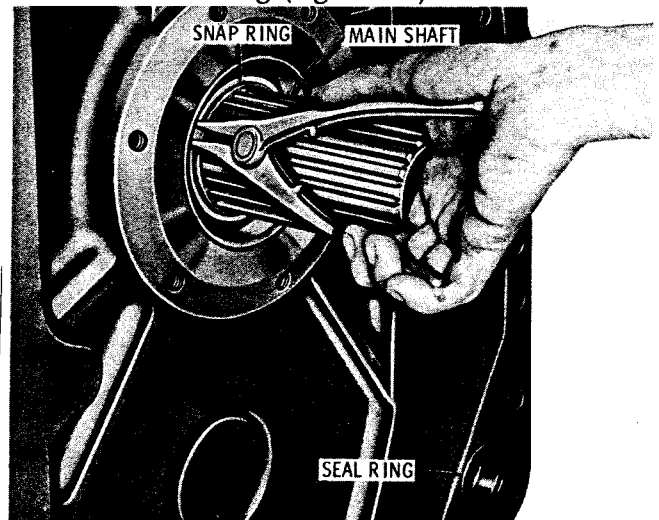

Fig. 7-49. Installing main shaft snap ring
(3) Install the snap ring into the groove in the main shaft (fig. 7-49).
(4) On transmissions prior to S/N 26374, install the seal ring into the opening at the lower-right rear of the transmission housing (fig. 7-49).